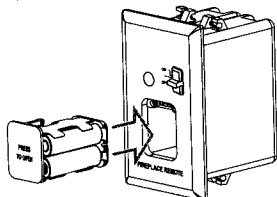

Figure 4
6. Slide the battery compartment into the Remote Receiver. See Figure 4.